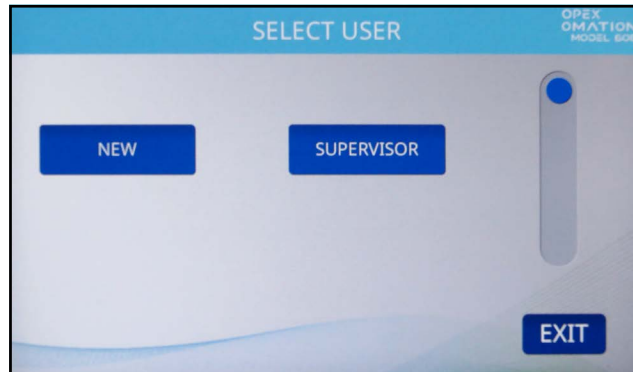

Figure 5-3: Select User screen
3. Select your user login. A new OM606 includes two default users (Figure 5-3):